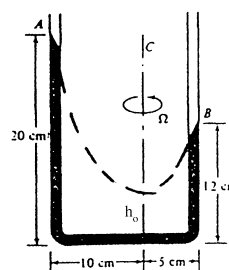

Fig. P2.155
**2.155** For what uniform rotation rate in  $r/\text{min}$  about axis C will the U-tube fluid in Fig. P2.155 take the position shown? The fluid is mercury at  $20^\circ\text{C}$ .